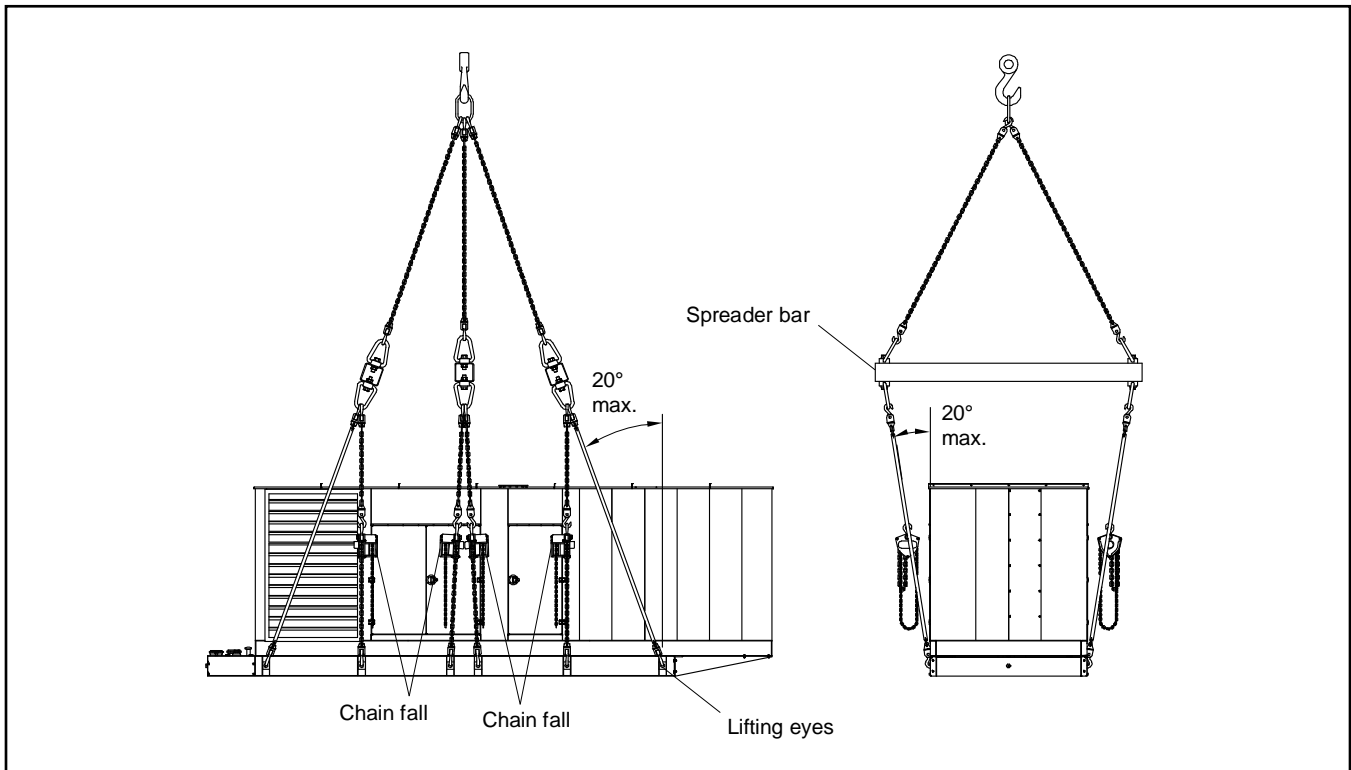

Figure 13 Twelve Eyes, Three Spreader Bars, and Eight Chain Falls Lifting Method
- Install a pair of outer slings up to the maximum angle as shown in Figure 13.